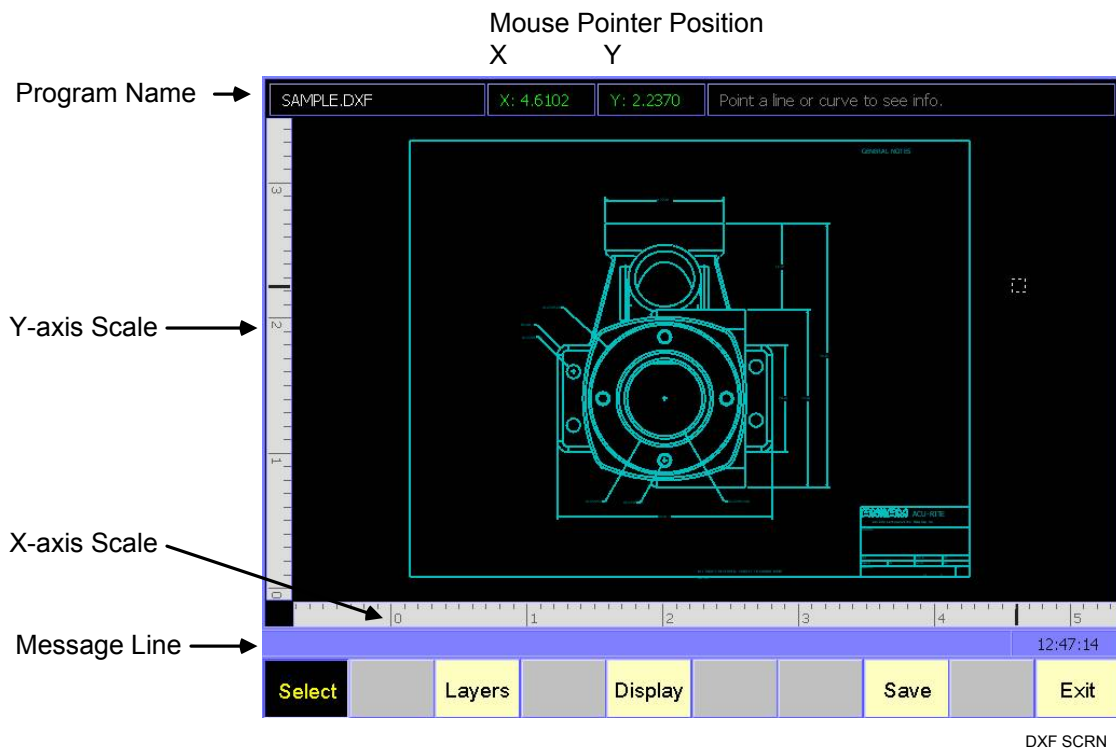

Figure 16-1, DXF Screen
3. Select the **Edit (F8)** soft key to open and bring the drawing into the DXF converter. Refer to **Figure 16-1**.